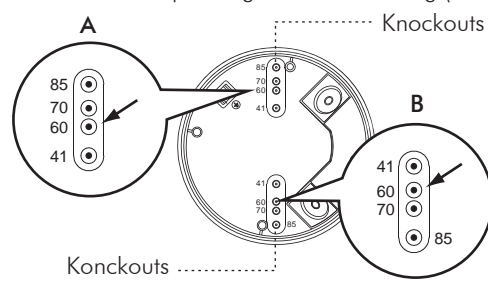

FIG.12-A
3.4.3.1 There are 4 pairs of knockouts with various distances from 41mm to 85mm on the bottom cover of combined junction box KDP3/5 FP can be selected for different mounting applications (See FIG.12-A). Select two same figures on both ends for the corresponding distance for fixing (See FIG.12-B).